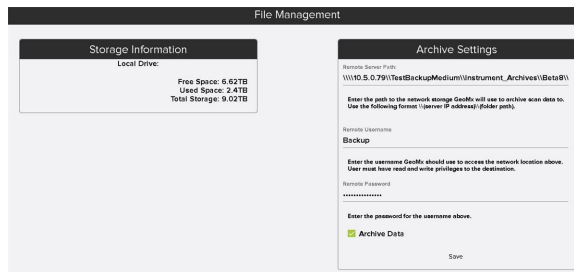

Figure 68: File Management tab under Administration
1. Select File Management to set archive settings (see Figure 68).